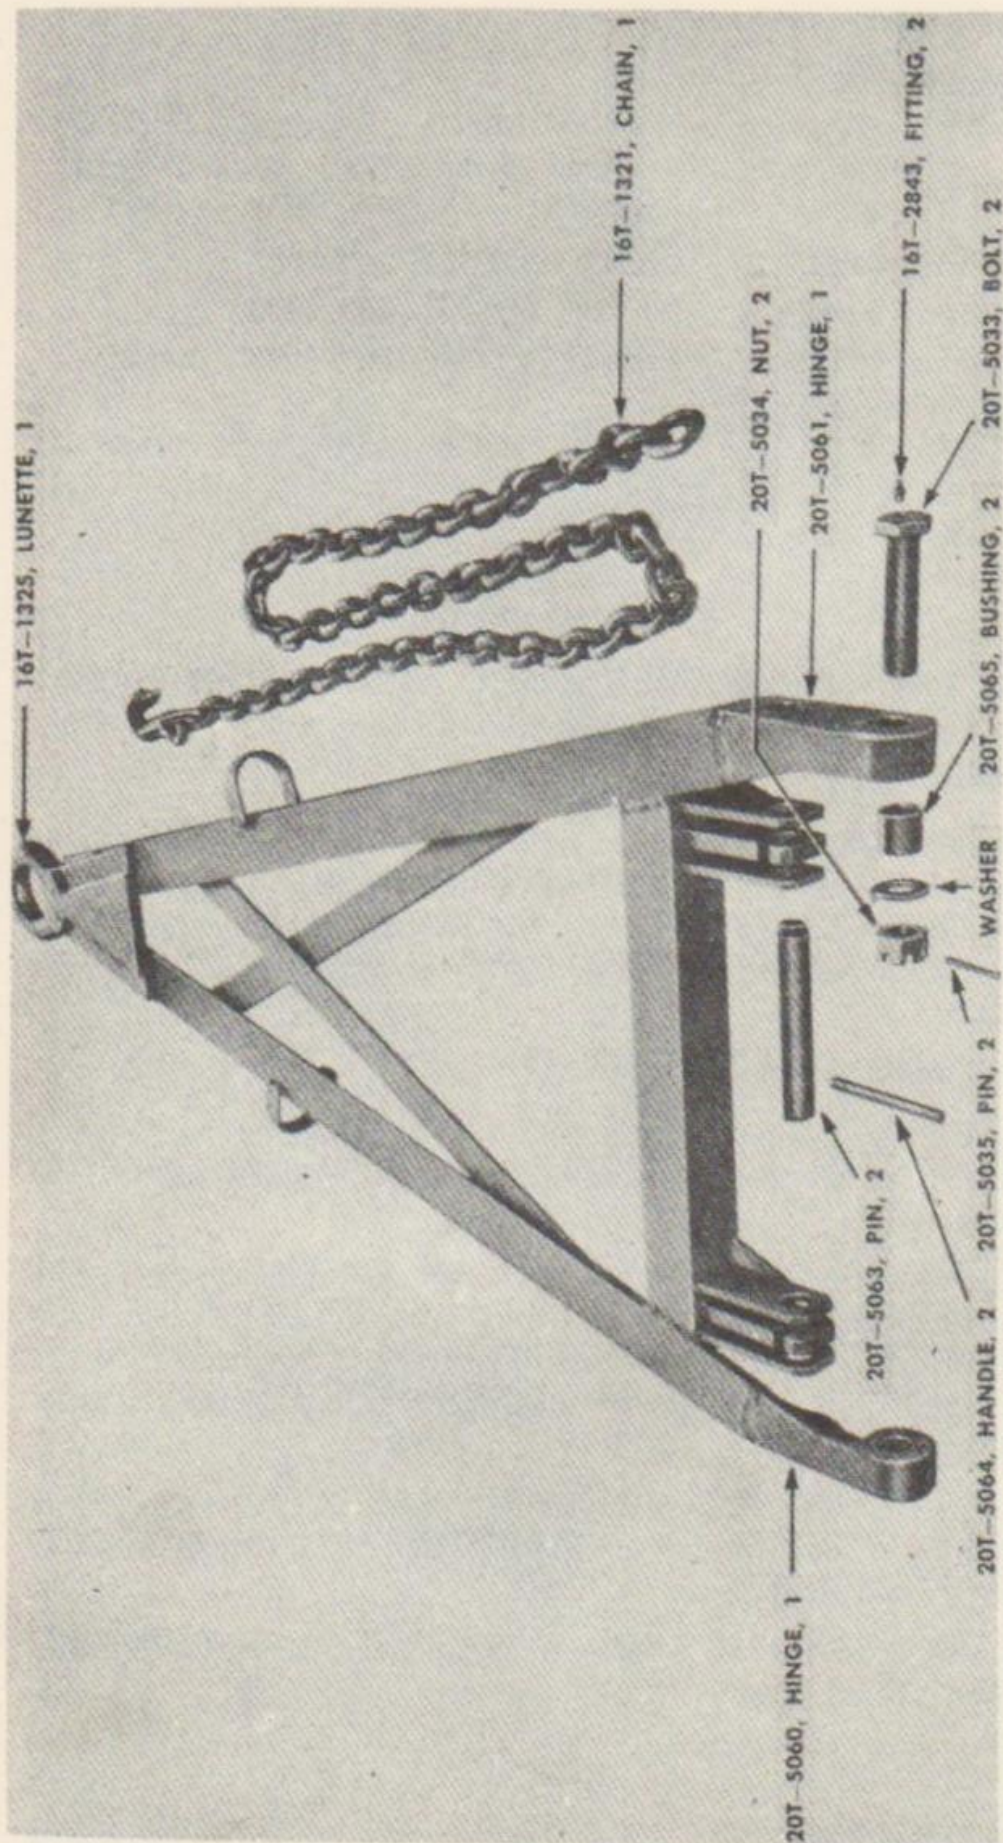

FIGURE 83. DRAW BAR—EXPLODED VIEW
b. Inspection and Repair (fig. 83).
- (1) Inspect lunette eye 16T-1325 for excessive wear. If badly worn, remove with an acetylene cutting torch and reweld new lunette eye in position.
- (2) Check lock pin 20T-5063 for ease of operation. Check handle 20T-5064 for bend and breakage. If the handle is broken, remove the broken portion by drilling a 1/4 inch diameter hole into center of the broken handle 1/2 inch in depth. Back out the handle using a back-out tool.
- (3) Inspect all welds for cracks; reweld if necessary. Check bushings 20T-5065 for excessive wear. If worn beyond 1.3125, remove bushing. Install new bushing and ream to 1.2500.
- (4) Check draw bar for bend. Straighten by using hydraulic jack, chains and I-beam.